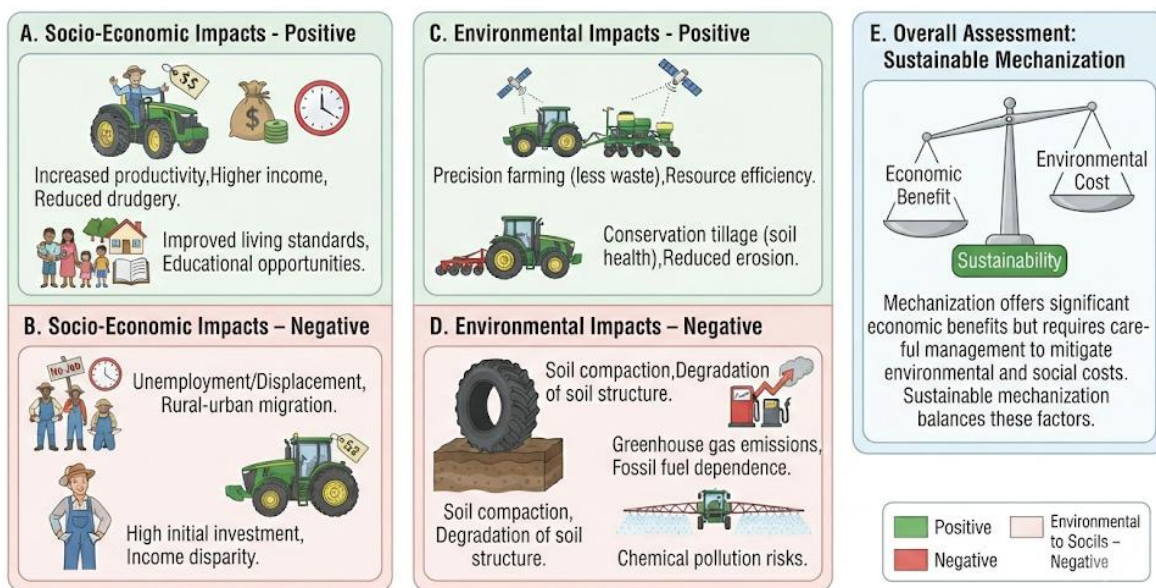

Figure 5.3 Impacts of mechanization
Diagram showing socio-economic and environmental impacts of mechanization Caption: Figure 5.3 Impacts of mechanization
- Figure 5.3 Impacts: “impacts of mechanization socio-economic environmental OER”